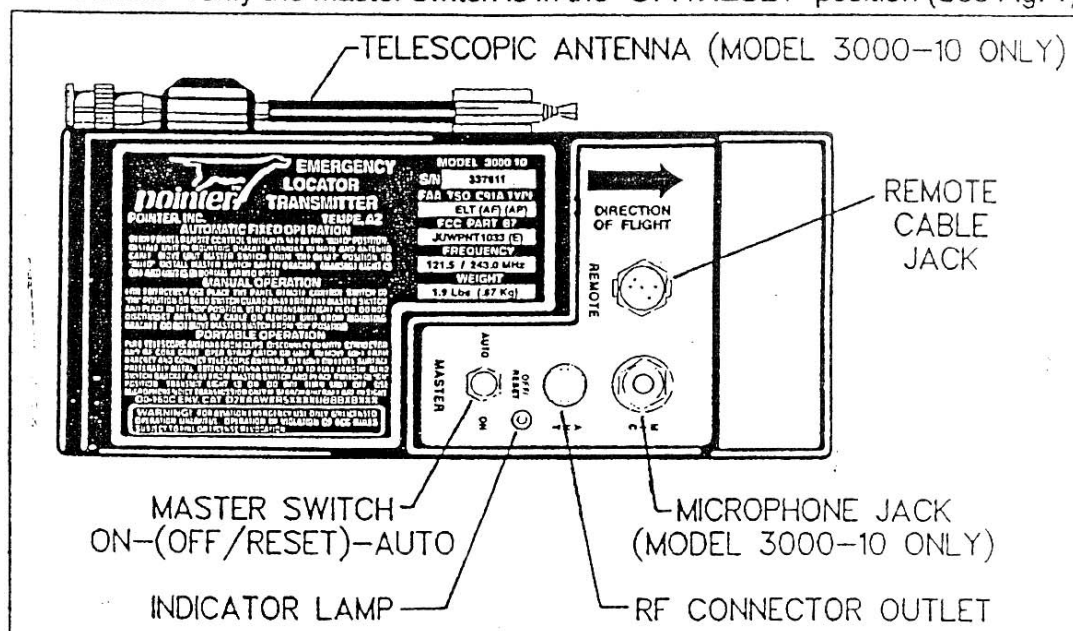

FIGURE 1. POINTER 3000-10,11 OPERATING DETAILS
- 1-4 POINTER ELT (see Figures 1 and 2) consists of:
- a. Remove POINTER ELT from carton and remove foam guard from master switch. Verify the master switch is in the "OFF/RESET" position (See Fig. 1).